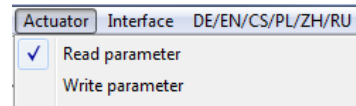

Fig. 1: Reading of actuator parameters
5. Read (download) actuator parameters (see Fig. 1).